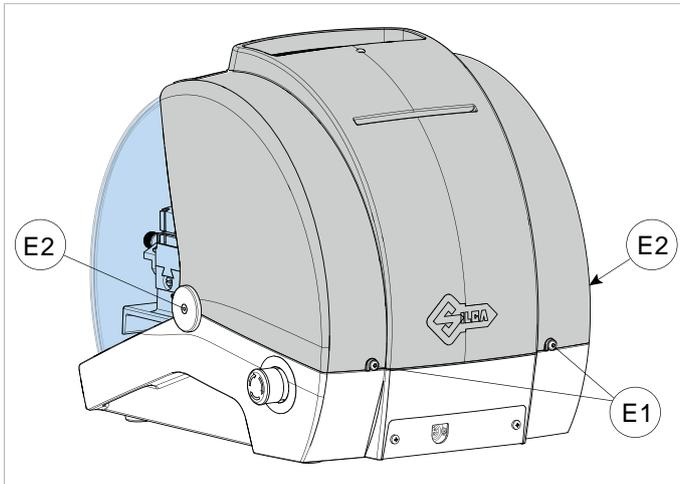

Fig. 44
- 2) Loosen the 2 screws (E1) and the 2 screws (E2) (Fig. 44).